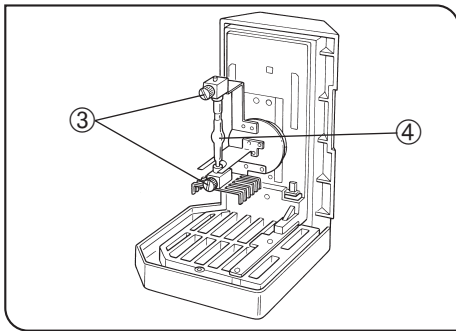

Fig. 17
3. Place the socket section upside down as shown in Fig. 17.
- Ⓞ The lamp housing is equipped with the holder for transportation in the factory shipment condition, or with an old burner when the burner is replaced. Remove the holder or old burner by loosening the two burner holding screws ③
4. Attach the + (positive) pole of the mercury burner ④ to the fixed mount on the upper side, then the – (negative) pole to the mount on the lower side.